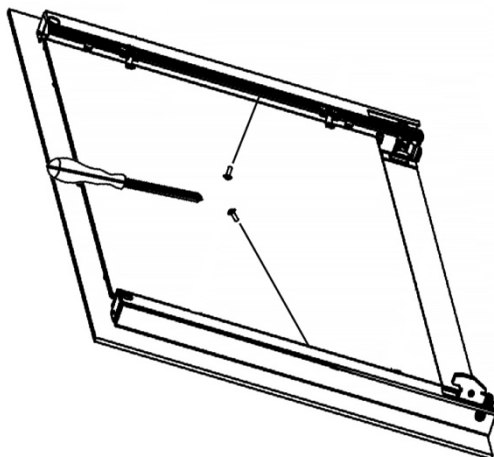

Fig. 5
3. Loosen the 2 clips. (Fig.5)